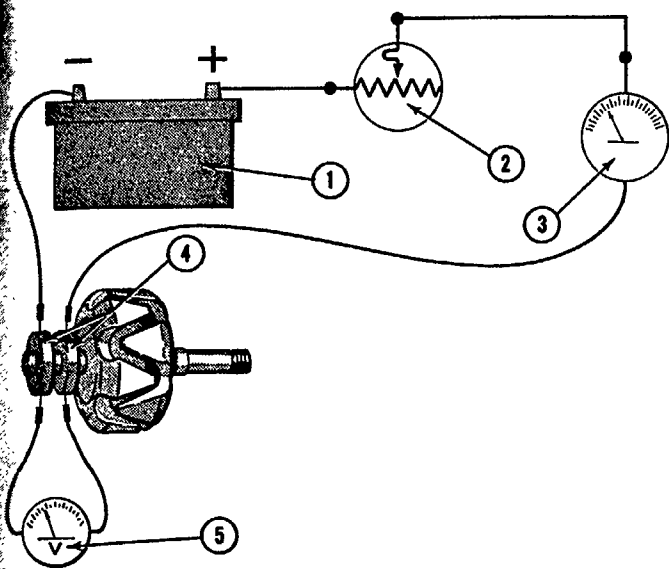

Figure 59
1. Connect a field rheostat in series with an ammeter and the battery positive terminal. Connect the black lead (negative) from the ammeter to one of the two rotor slip rings. See Figure 59.